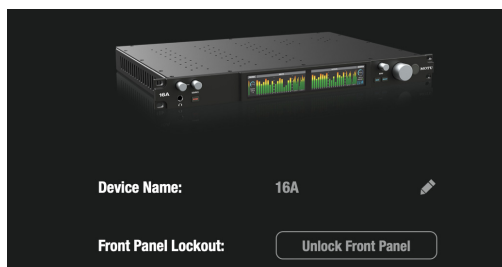

Figure 5-5: Disabling Front Panel Lockout mode in the Device tab in CueMix Pro.
- In CueMix Pro, go to the Device tab and click the *Unlock Front Panel* button (Figure 5-5).